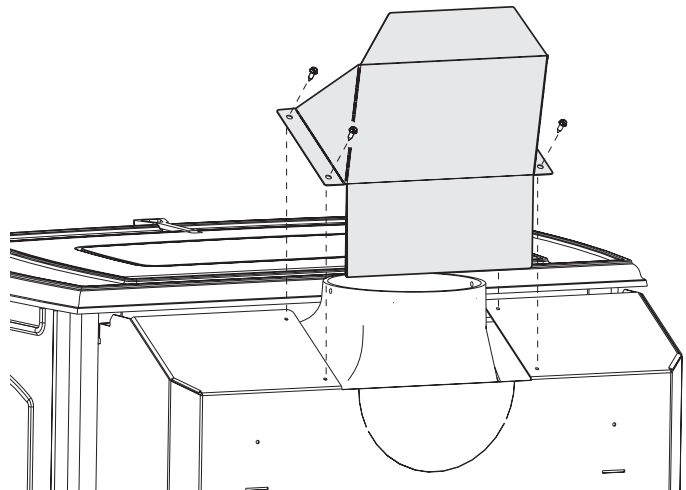

Figure 2. Flue Collar heat shield attachment.
1. Fold the heat shield on the perforations to conform to the shape as illustrated in fig.2.